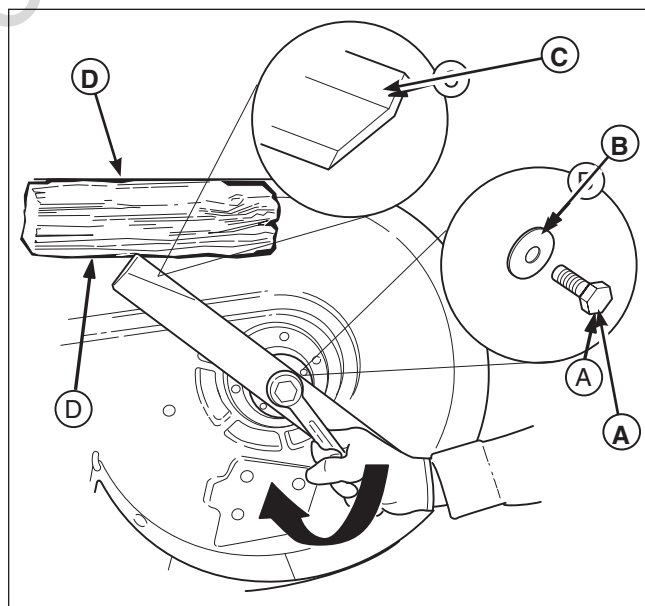

Figure 30. Tightening the Mower Blade for Installation
2. Reinstall each mower blade with the air lifts pointing up towards the mower deck as shown in Figure 30. Secure with the mower blade mounting bolt and flat washer (**A & B**, **Figure 30**) and torque to 70 ft. lbs (94 Nm).